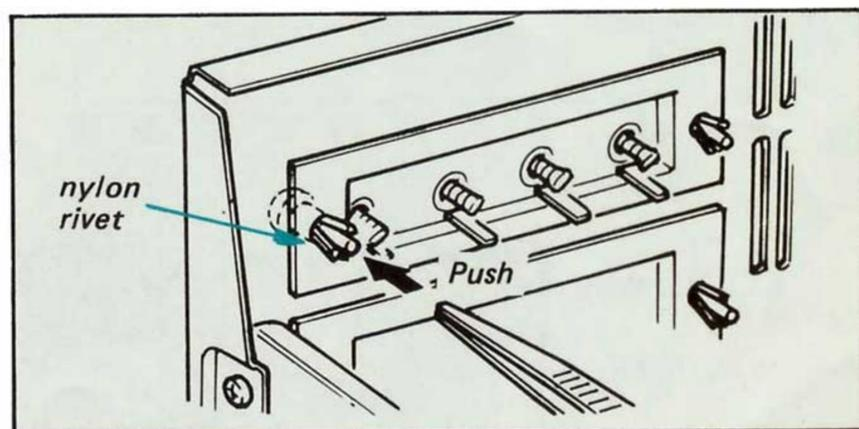

Fig. 2-4. Nylon rivet removal
1. To remove the nylon rivet, push its end with a tweezers as shown in Fig. 2-4.